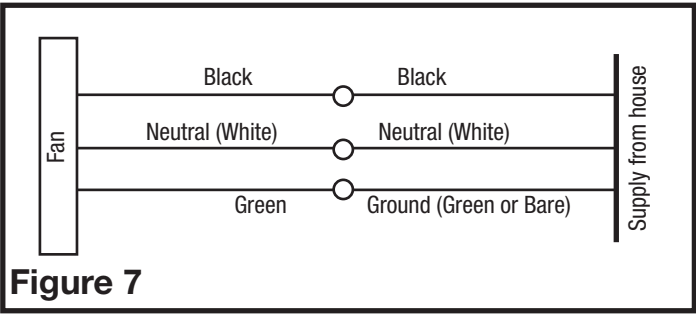

Figure 7
- 2. From where you have access to inside the fan's junction box, connect the White wire from the house to the White wire from the fan's receptacle. Connect the Black wire from the wall switch to the Black wire from the fan's receptacle. Connect the ground wire from the house to the Green wire from the fan's receptacle (Figure 7). Use approved methods for all connections.